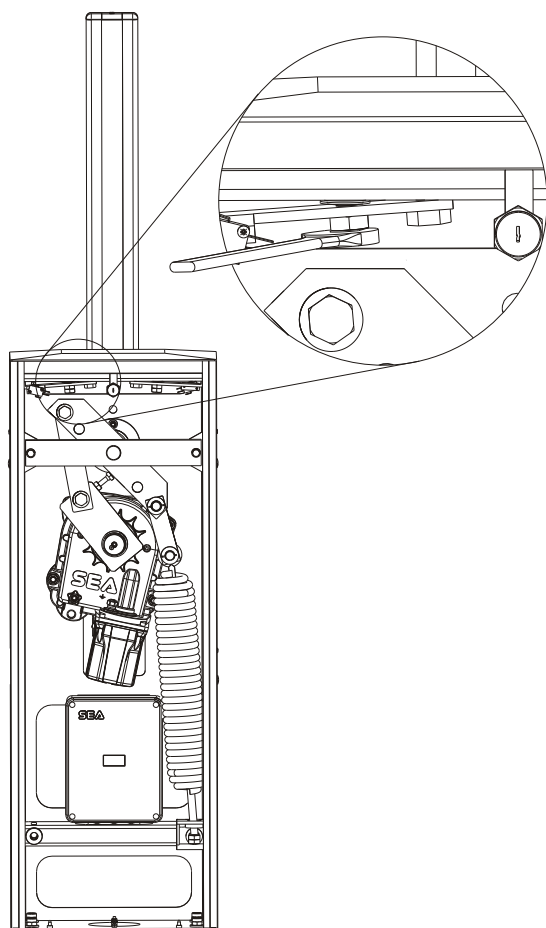

Fig.14
- Release the end stroke screws unscrewing the lock nuts on the limit switch (Fig.14).
- Screw or unscrew the end stroke screws so that the beam stays in perfectly vertical position in opening and in perfectly horizontal position in closing (Fig.14).